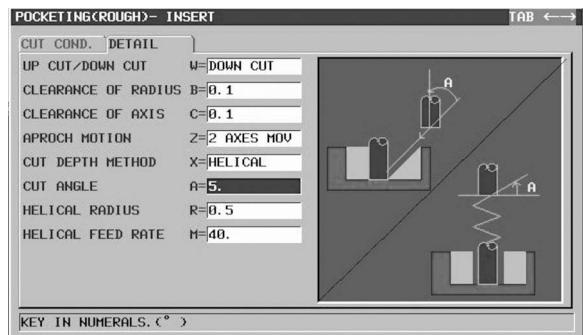

Figure 7-60 POCKETING (ROUGH),
- Set the CUT ANGLE A=5. per Figure 7-60.